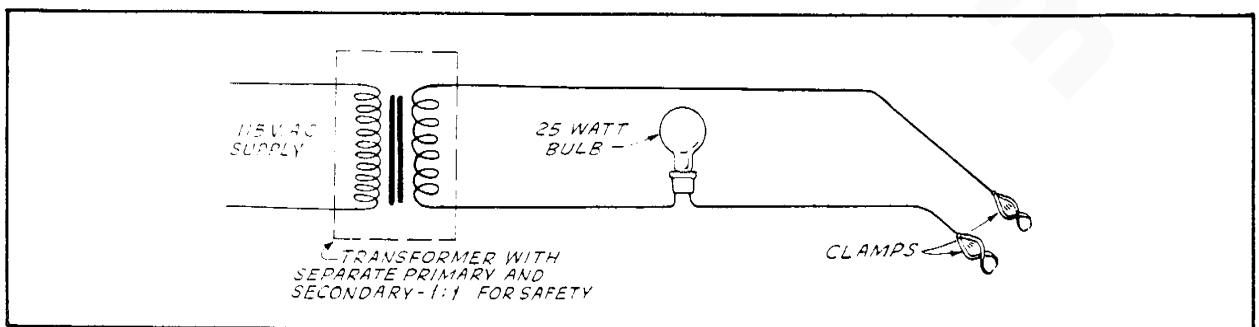

Fig. 4.K — 115V Continuity Test Lamp (Use for testing Magneciter)
4.3.3.1 Reactors. — Test the control reactor with an ohmmeter, using the resistance values in the Table of Resistances (Fig. 4.L). Use the following method to test each gate reactor: